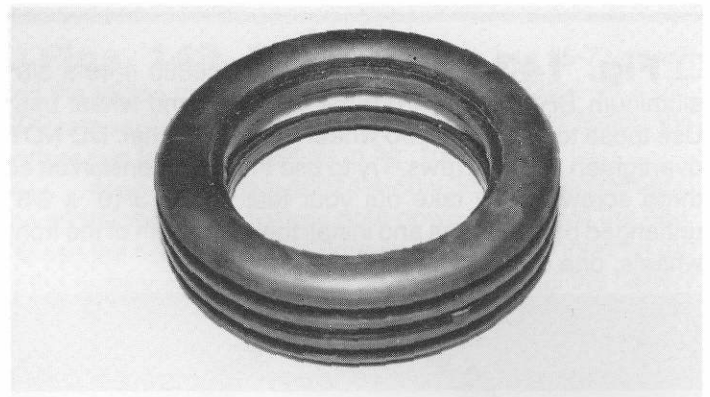

Fig. 140
□ **Fig. 140** This photo shows the #6854Y front wheel ring already installed. Double check to make sure the ring is perfectly centered.